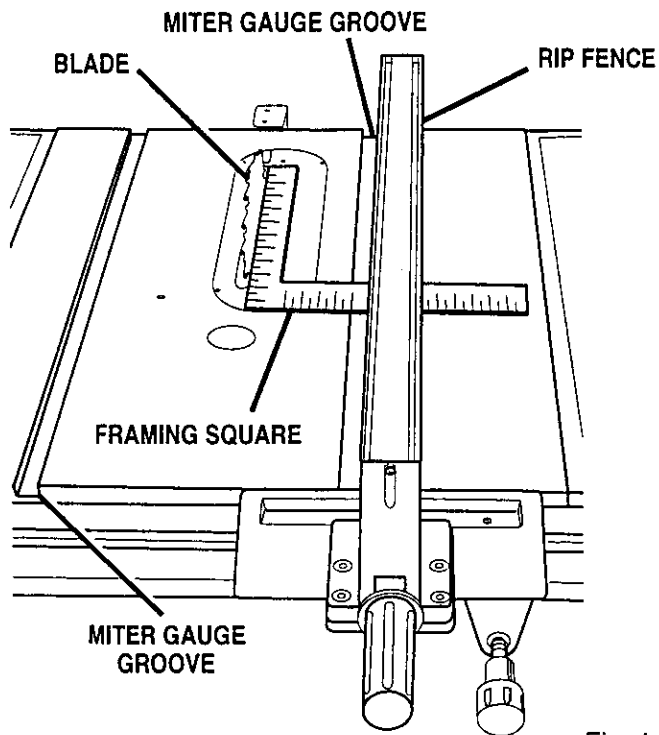

Fig. 14
- Place a framing square against the blade, with the long end under the rip fence at the front. See *Figure 14*. Note the distance.